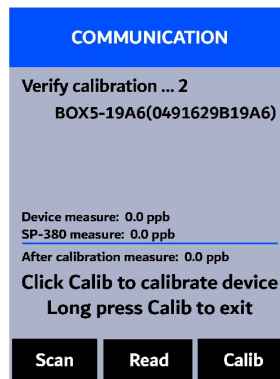

Figure 21.
13. The SP-380 will take the sensor PTSA measurement three times to verify the calibration (Figure 21).